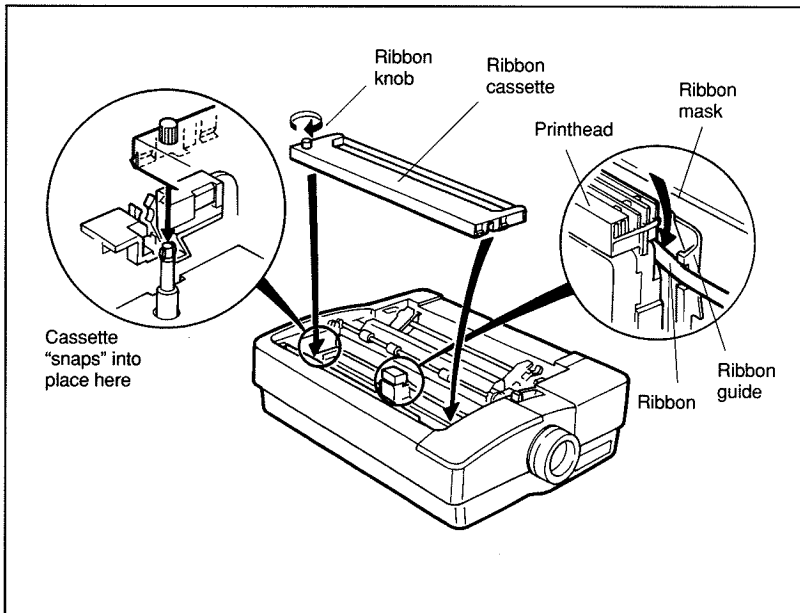

Figure 1-5. Install the ribbon cassette.
cassette will not lift out easily; it “snaps” out. See Figure 1-5.
4. Slide the ribbon down into position between the printhead and the metal ribbon mask. This is easy to do! Do not force the ribbon between the ribbon mask and the ribbon guide (the black plate closest to the platen). See Figure 1-5.